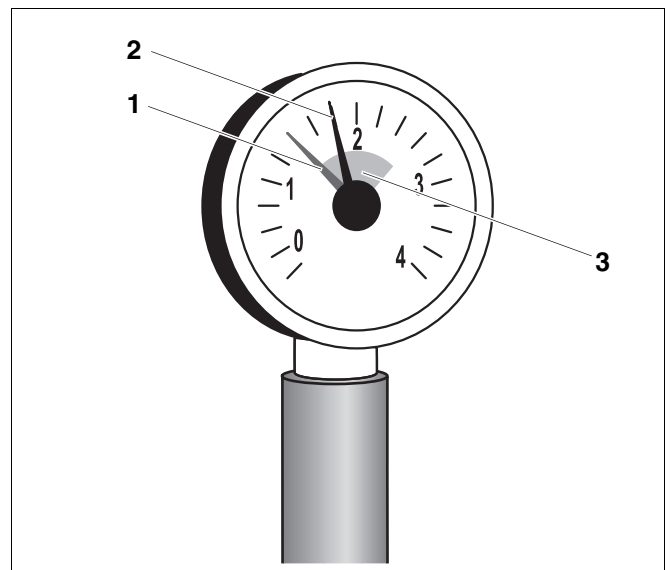

Fig. 5 Pressure gauge for **sealed systems**
On sealed systems the pressure gauge needle (Fig. 5, **item 2**) must be within the green range (Fig. 5, **item 3**). Set the red needle (Fig. 5, **item 1**) on the pressure gauge to the required system pressure.